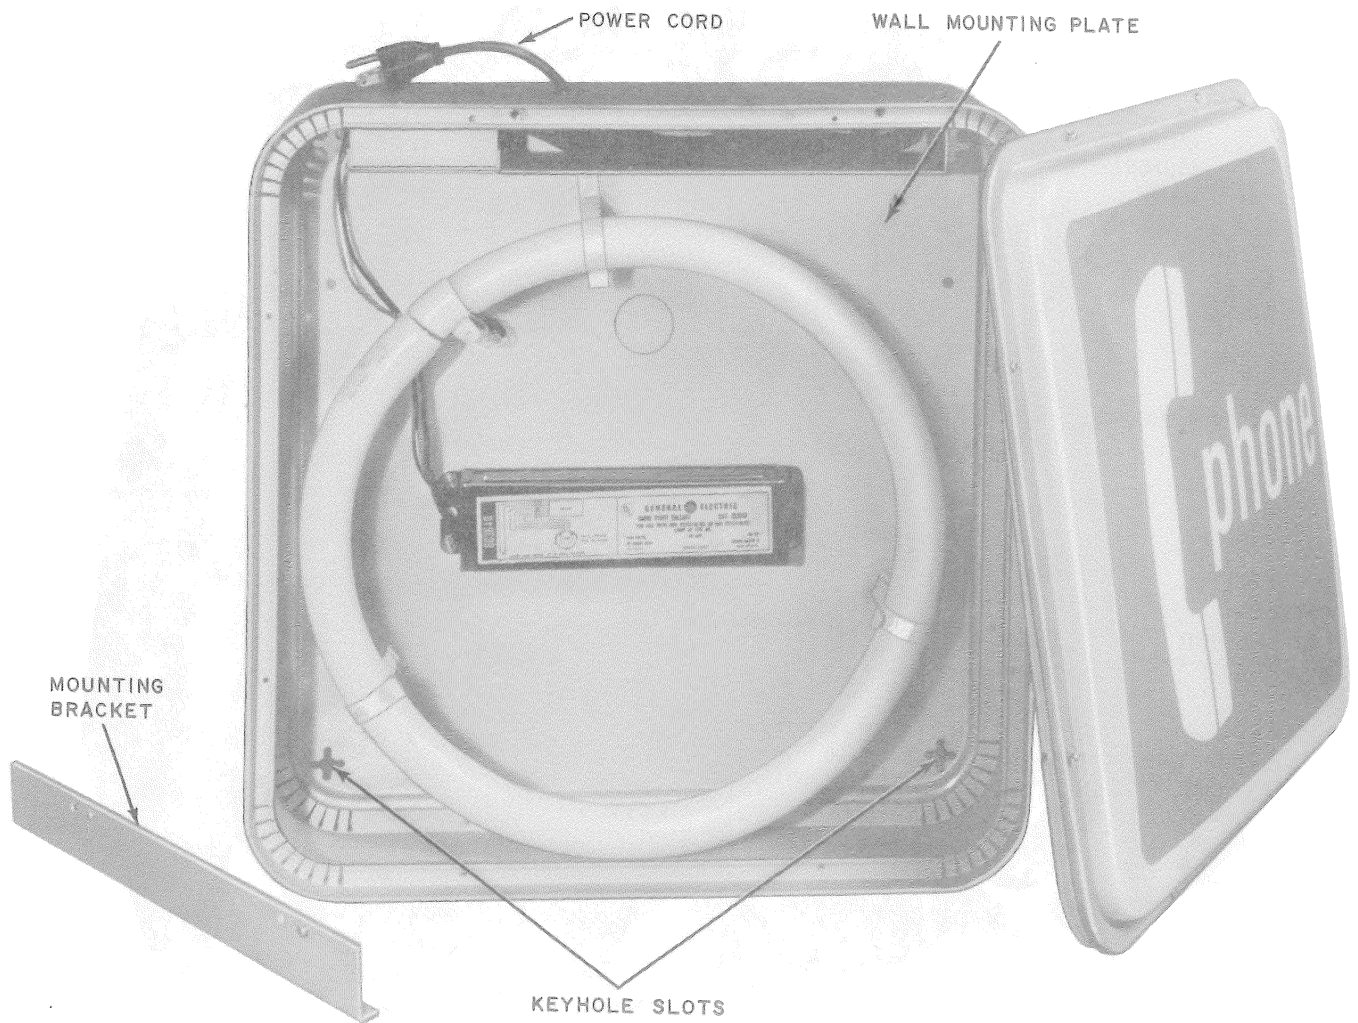

Fig. 23—KS-20135, List 4 Indoor Sign
- KS-20135, List 4 is a one lens, indoor sign for wall mounting. The sign is equipped with a cord with a molded plug, but conduit may be used when the sign is permanently mounted (Fig. 23).
5.06 The KS-20135, List 4 sign is illuminated by one 40-watt circline fluorescent lamp (Fig. 23).
5.11 The KS-20135, List 4 sign (indoor, one lens) has a metal wall mounting plate on the opposite side of the lens, to which the lamp and ballast are attached. This mounting plate has keyhole slots (Fig. 23) that permits the sign to be mounted to the wall with the cord coming out the top, bottom or either side. The cord may enter through the mounting plate.